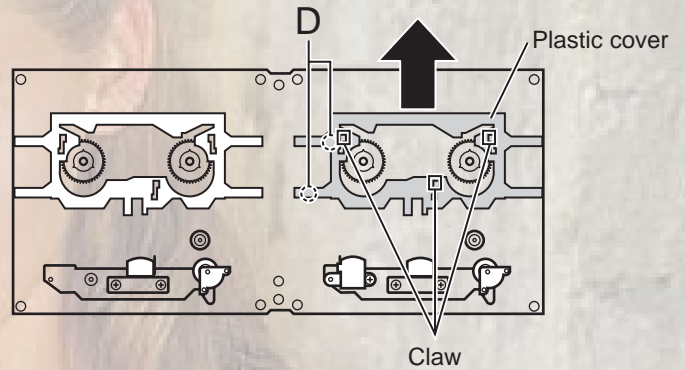

Fig.4
**Removing the motor (See Fig. 4 to 6)**